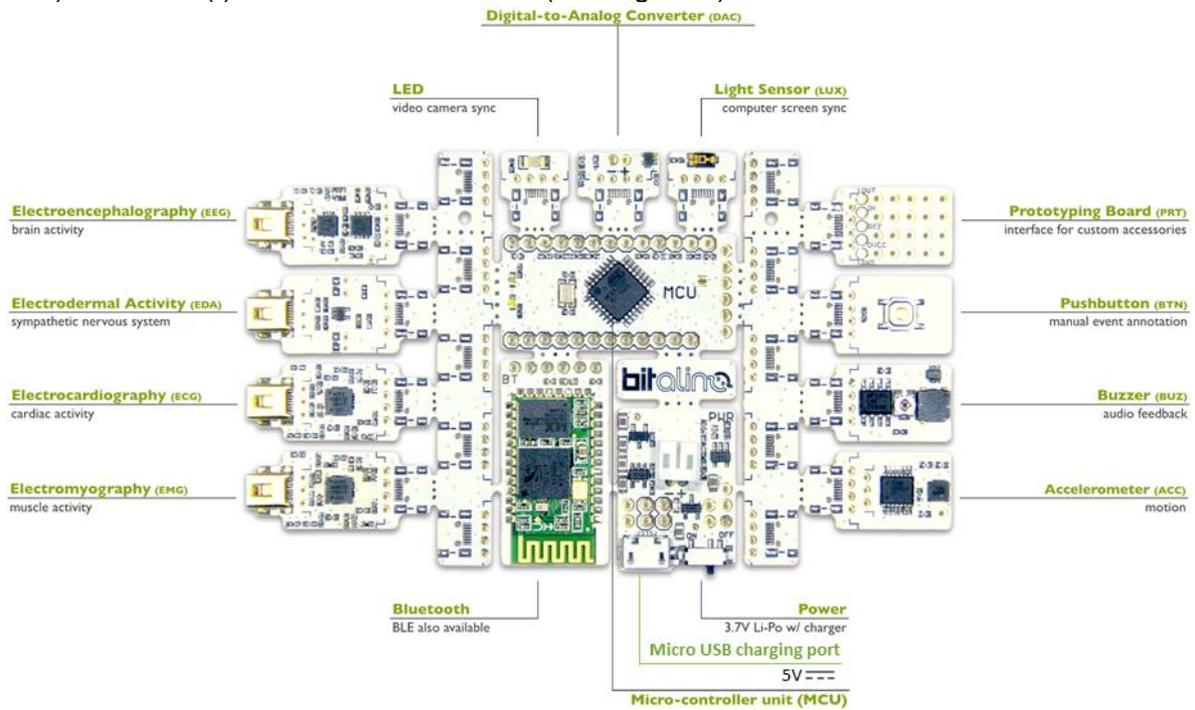

Figure 6: BITalino Board kit BT: Components of the Board with sensors and “Core”.
a) BITalino (r)evolution **Board kit BT** (see Figure 6)